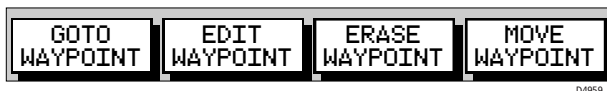

Figure 3-23: Waypoint Soft Keys
If you place a waypoint at the cursor, the Waypoint soft keys shown in *Figure 3-23* are shown. Press **CLEAR** to remove these softkeys.
1. Move the cursor over the waypoint, until the letters WPT are displayed. The Waypoint Data box (see *Waypoint Data Display* below) and the soft keys are displayed as shown in *Figure 3-23*:
- Whilst the cursor is over the waypoint, the waypoint soft keys are displayed, see *Figure 3-23*.